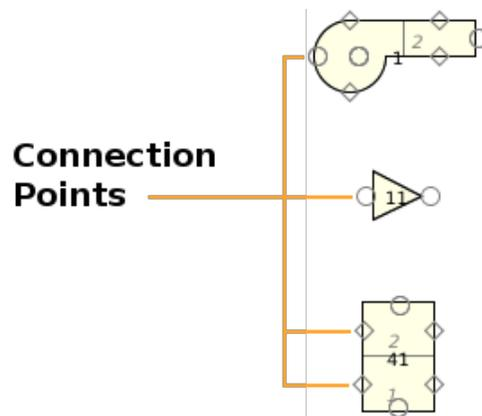

Figure 2.17. Connection points used in the TRACE plug-in
- **Connection Size** - This value sets the size of the connection points, which defaults to 10 pixels. Connection points are graphic shapes that indicate where a connection to a component can be made. Different shapes imply different connection semantics on a plug-in specific basis. For instance, in the TRACE plug-in, a circle is used to indicate a point that may be used to start a connection. A diamond is used to indicate a point that may be used to end a connection. Refer to Figure 2.17, “Connection points used in the TRACE plug-in”.